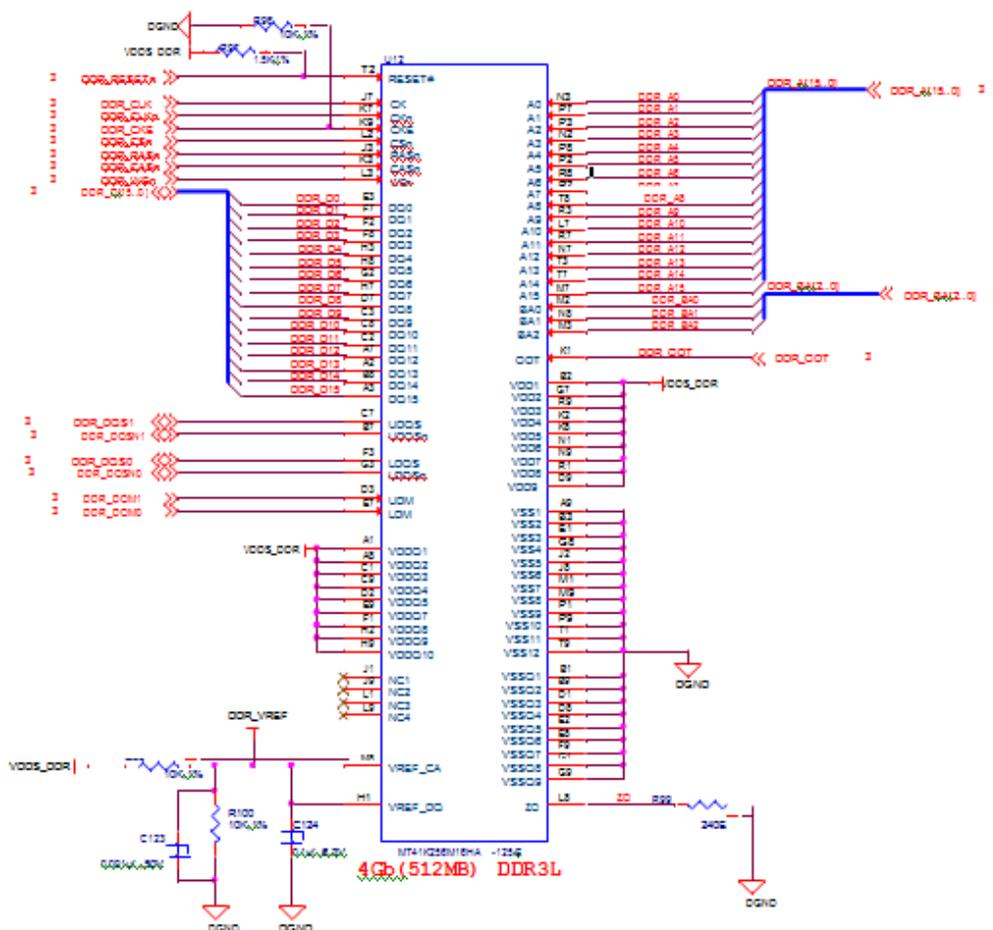

Figure 32 DDR3L Memory Design
**Figure 32** is the schematic for the DDR3L memory device. Each of the groups of signals is described in the following lines.
**Address Lines:** Provide the row address for ACTIVATE commands, and the column address and auto pre-charge bit (A10) for READ/WRITE commands, to select one location out of the memory array in the respective bank. A10 sampled during a PRECHARGE command determines whether the PRECHARGE applies to one bank (A10 LOW, bank selected by BA[2:0]) or all banks (A10 HIGH). The address inputs also provide the op-code during a LOAD MODE command. Address inputs are referenced to VREFCA. A12/BC#: When enabled in the mode register (MR), A12 is sampled during READ and WRITE commands to determine whether burst chop (on-the-fly) will be performed (HIGH = BL8 or no burst chop, LOW = BC4 burst chop).